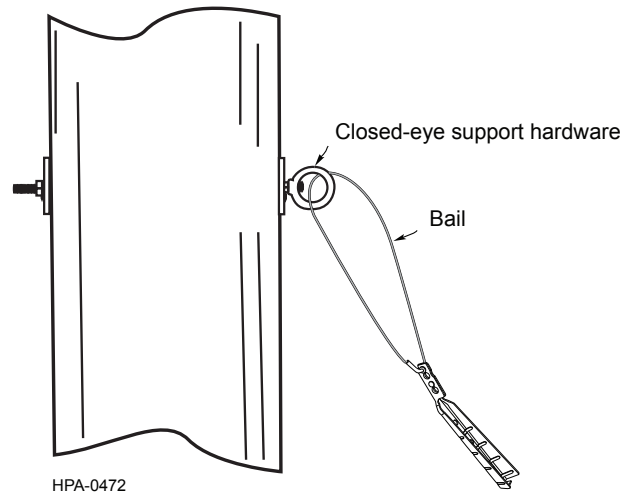

Figure 4
- Step 2:** If the pole hardware has a closed eye as seen in Figure 4, skip to Step 3.
Step 4: Once the free-end of the bail is threaded through the closed-eye hardware, reverse the operations in Step 3 to re-secure the bail (Figure 4).